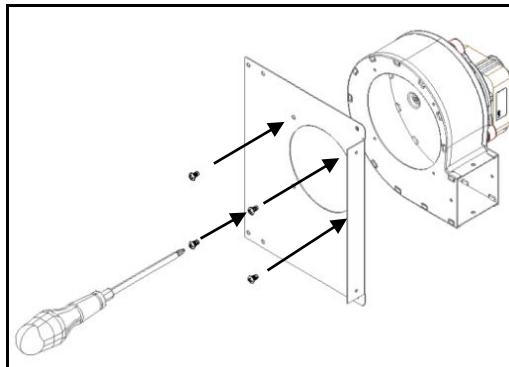

Figure 124 – Securing the support bracket to the ventilator
- d) Screw the Figure 124 assembly into the side face of the combustion chamber using 6 screws A (DIN 7981 FA 4,2x13) into the holes provided for this purpose.